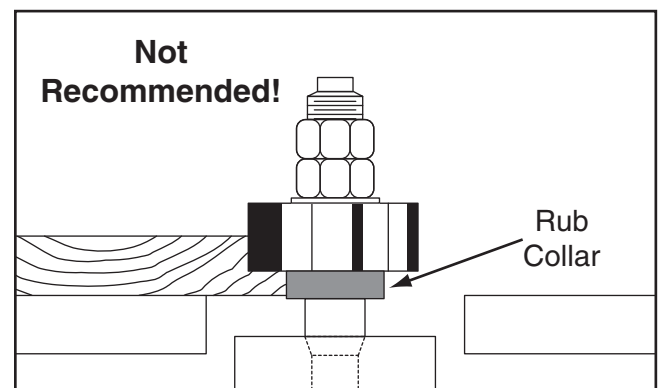

Figure 46. Cutting with rub collar below cutter.
1. **Rub collar below the cutter:** When the rub collar is placed below the cutter, as shown in **Figure 46**, the progress of the cut can be observed. However, any unintentional movement may lift the workpiece into the cutter, damaging your work and creating a dangerous situation. *We DO NOT recommend using the rub collar in this position.*